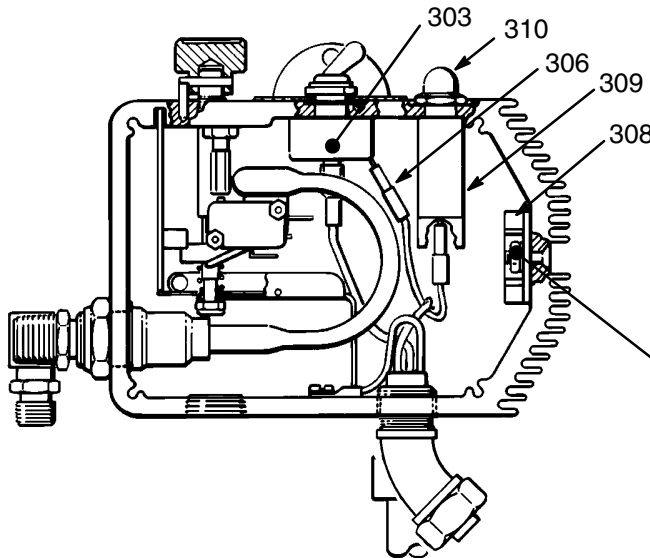

Fig 27-1
Refer to Fig 27-1.
The lockwashers (333) must be in front of the bridge to avoid overheating which will result in bridge failure. Refer to the DETAIL in Fig 27-1.